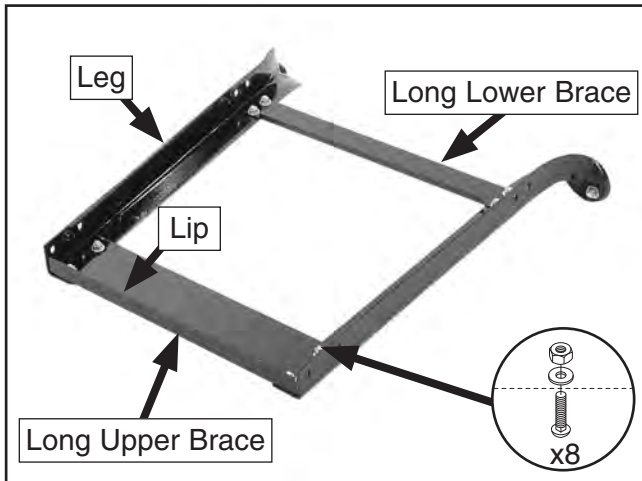

Figure 16. Stand legs fastened to long braces.
3. Fasten a long upper and long lower brace to the two stand legs with (8) $\frac{5}{16}$ "-18 x $\frac{1}{2}$ " carriage bolts, $\frac{5}{16}$ "-18 hex nuts, and $\frac{5}{16}$ " flat washers, as shown in **Figure 16**. Finger tighten the fasteners for now.